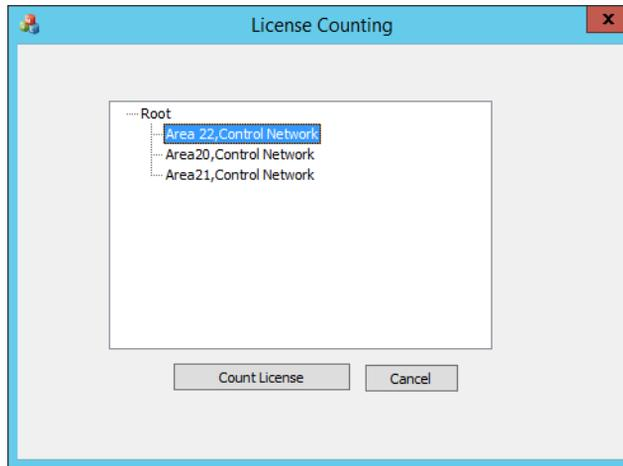

Figure 17. License Count Tool Wizard
License Count Tool is an User Interface tool that counts and verifies the list of licenses for the device types. The User Interface for this tool is available in the System 800xA 5.1 Feature Pack 4 Revision E and System 800xA Revision E release (see Figure 17).
2. On the License Counting wizard, expand the Root element, select the Control Network, and then click **Count License** as shown in Figure 17.